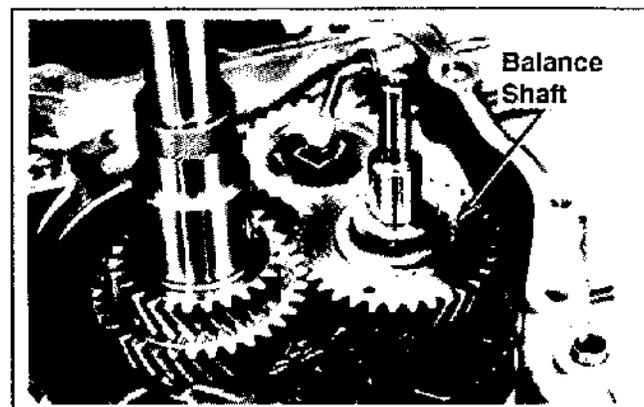

Figure 9-40. Removing Balance Shaft.
1. Remove the balance shaft from the crankcase. See Figure 9-40.